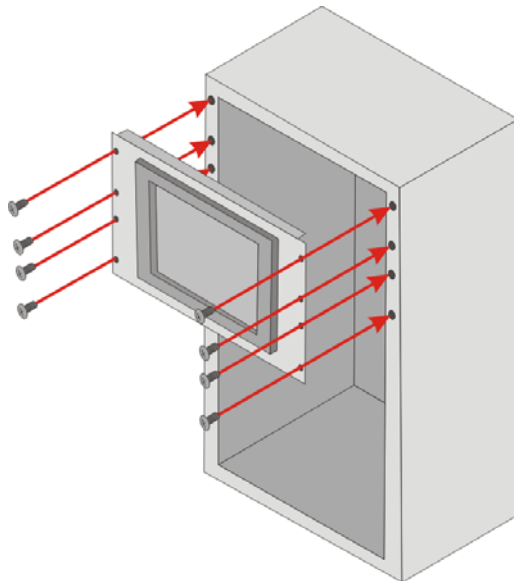

Figure 4-17: Install into a Rack/Cabinet
Step 4: Slide the flat bezel panel PC with the attached rack/cabinet bracket into a rack or cabinet (**Figure 4-17**).
Step 5: Once the flat bezel panel PC with the attached rack/cabinet bracket has been properly inserted into the rack or cabinet, secure the front of the rack/cabinet bracket to the front of the rack or cabinet (**Figure 4-17**).